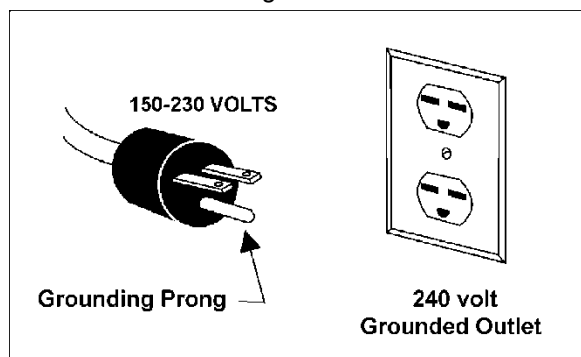

Figure 24
3. The 115V attachment plug supplied with the band saw must be replaced with a UL/CSA listed plug suitable for 230V operation, as shown in Figure 24. Contact your local authorized JET service center or qualified electrician for proper procedures to install the
4. The band saw with a 230 volt plug should only be connected to an outlet having the same configuration (Figure 24). No adapter is available or should be used with the 230 volt plug.